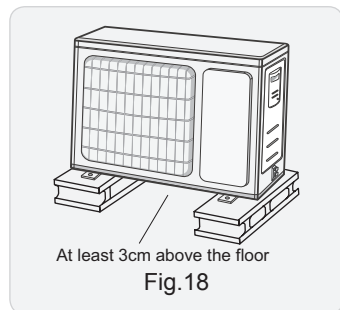

Fig.18
(1) Select installation location according to the house structure.
(2) Fix the support of outdoor unit on the selected location with expansion screws.
- The outdoor unit should be installed at least 3cm above the floor in order to install drain joint.(As show in Fig.18)